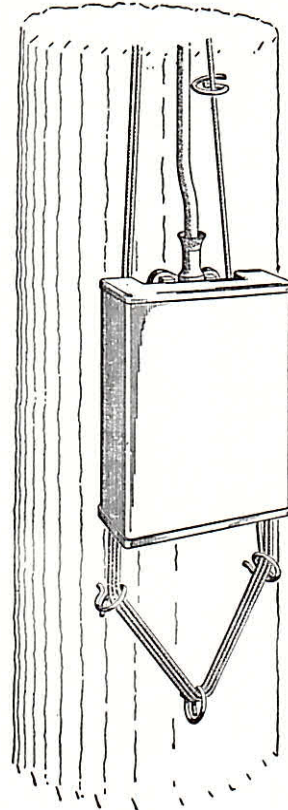

Fig. 7
(4) Lower the cover completely. This operation is facilitated if the spring catch is depressed as illustrated on page 7. Where a wiped joint at the cable stub entrance prevents lowering the cover, file the front of the joint sufficiently for the cover to clear, exercising care not to penetrate the cable stub sheath. If necessary, arrange the distributing wires and the bridle rings below the terminal in the standard manner so as not to obstruct the cover. See Fig. 7.